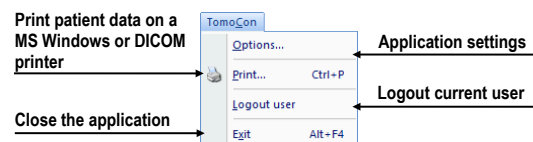

Figure 34 – TomoCon menu
- **TomoCon** – the main application sub-menu for defining the application settings and printing (image data printing on a Microsoft Windows printer, DICOM printer, logging into and out of the application or closing it); see Figure 34.